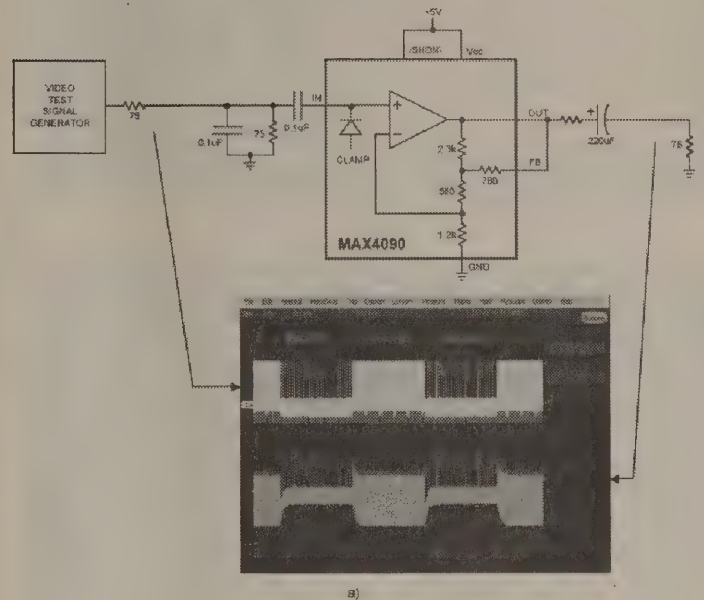
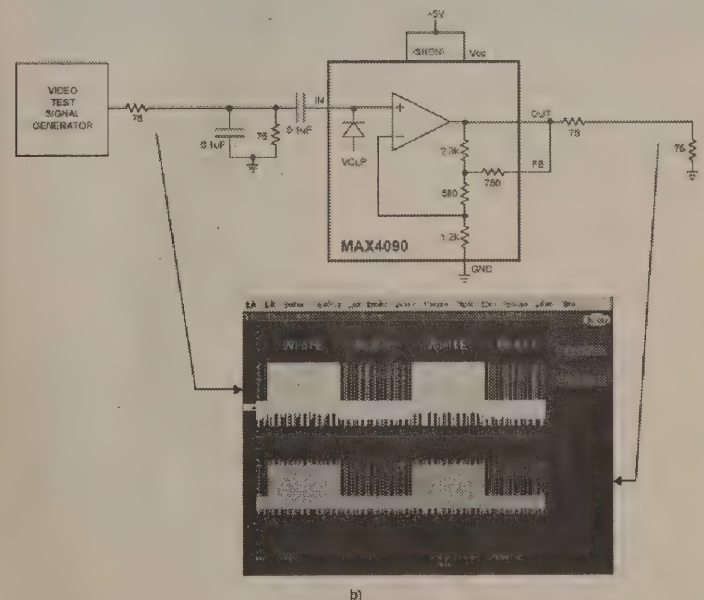
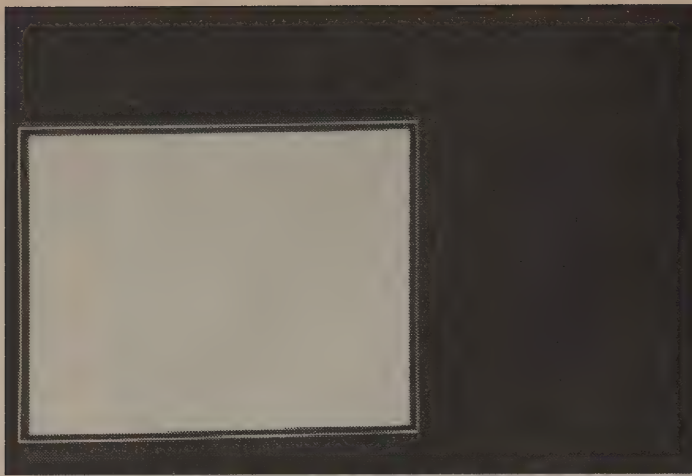
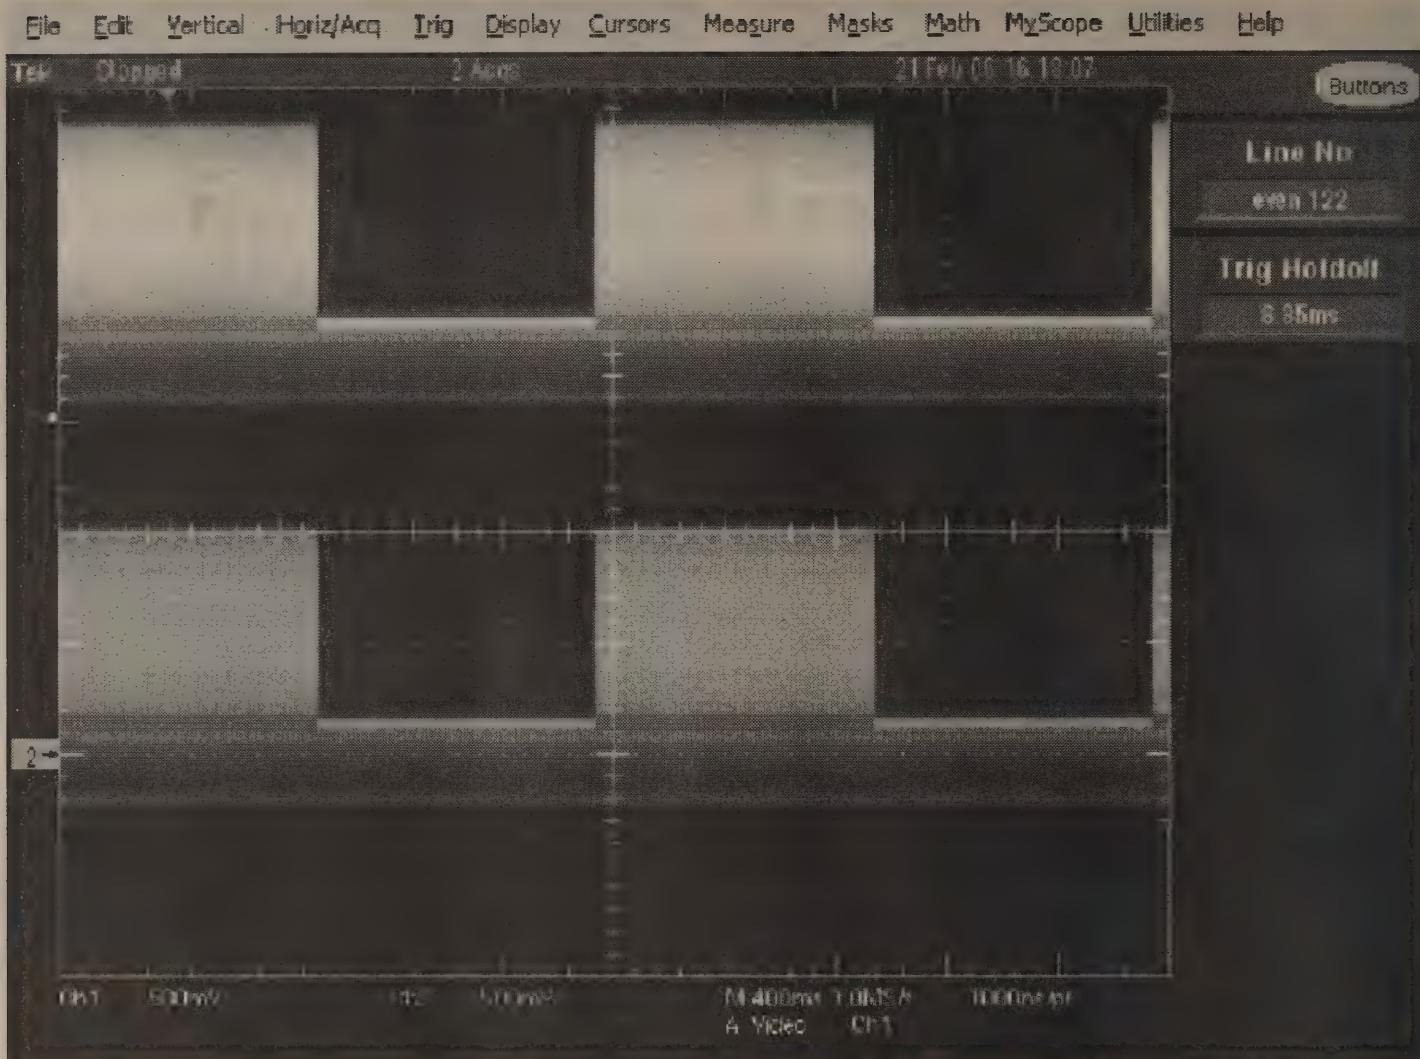

Figure 1a. AC-coupled output connection.
Figure 1b. DC-coupled output connection.
Figure 2a. White screen of Regulate video test signal.
Figure 8. Regulate video test signal applied to the MAX9503—input waveform is on top, output waveform is on the bottom.
For analog video circuits, the question of whether or not to design an AC-coupled output depends as much on company policy and industry standards as technology and cost. An AC-coupled output includes a series capacitor (Figure 1a), while a DC coupled output does not (Figure 1b). A designer new to video output circuits may find such a choice confusing because adding a capacitor to the output path increases cost, requires space, and distorts the video signal. However, the choice may have already been made due to historical, technical, or economic reasons.
Figure 1a1 shows the input and output waveforms for an AC-coupled output. Notice how the output waveform “tilts” up and “tilts” down with respect to the input waveform. Hence, the name of this kind of field time distortion is “field tilt.” The oscilloscope trace in Figure 1b2 shows a DC-coupled output. In this case, notice that there is no field tilt. The NTSC video test signal used is named “Regulate.” Figure 2a shows what the white portion of the test signal looks like on a video monitor. Figure 2b shows what the black portion of the test signal looks like on a video monitor. The Regulate video test signal draws a white border on the edge of the screen during both the white portion and the black portion.
In the consumer electronics industry, the pressure to reduce cost is intense, and for small devices, the pressure to miniaturize is just as intense. Companies, even some with a long history of designing video equipment, are now opting for DC-coupled video connections (Figure 1b). The main difference to note with a DC-coupled output is that the signal has a positive DC bias due to the fact that most systems have eliminated negative supplies. In order for the amplifier to remain in a linear mode of operation, the output signal must be biased between ground and the positive supply.
**Figure 8** shows a Regulate video test signal applied to the MAX9503. Notice how the blank level of the output waveform is held near ground and that there is no field time distortion, in contrast to the normal AC-coupled waveform shown in **Figure 1a**. The Regulate test signal at the MAX9503 output maintains a much more well-defined output voltage range than that from an AC-coupled connection.
2 Just as in Figure 1a, there is a 0.1 $\mu$ F capacitor across the 75 input-termination resistor to ground for the same reasons. Without the 0.1 $\mu$ F capacitor, the aliasing during the black portion of the video test signal would make the black portion look the same as the white portion.